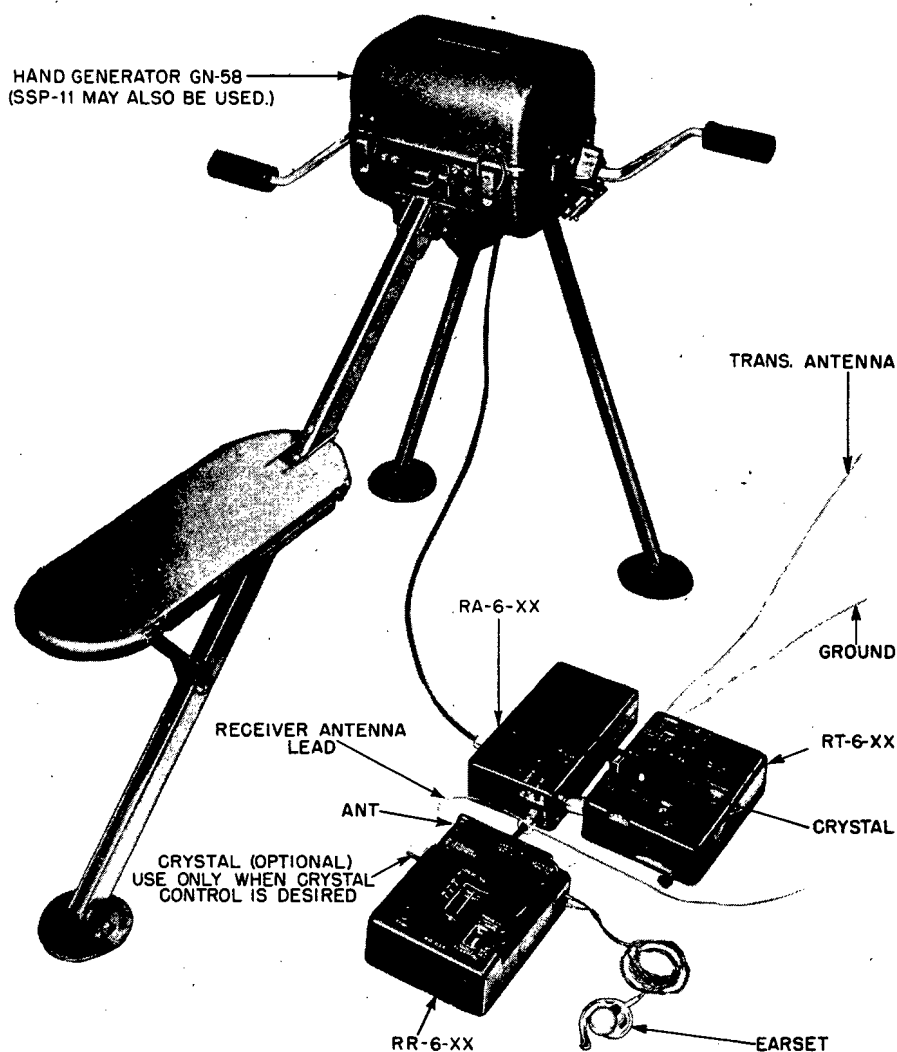

Figure 7. Radio Station RS-6-XX hand generator operation hook-up
b. Connect equipment as shown in Figure 7. (Receiver crystal shown is optional). Either Hand Generator GN-58 or SSP-11 may be used.